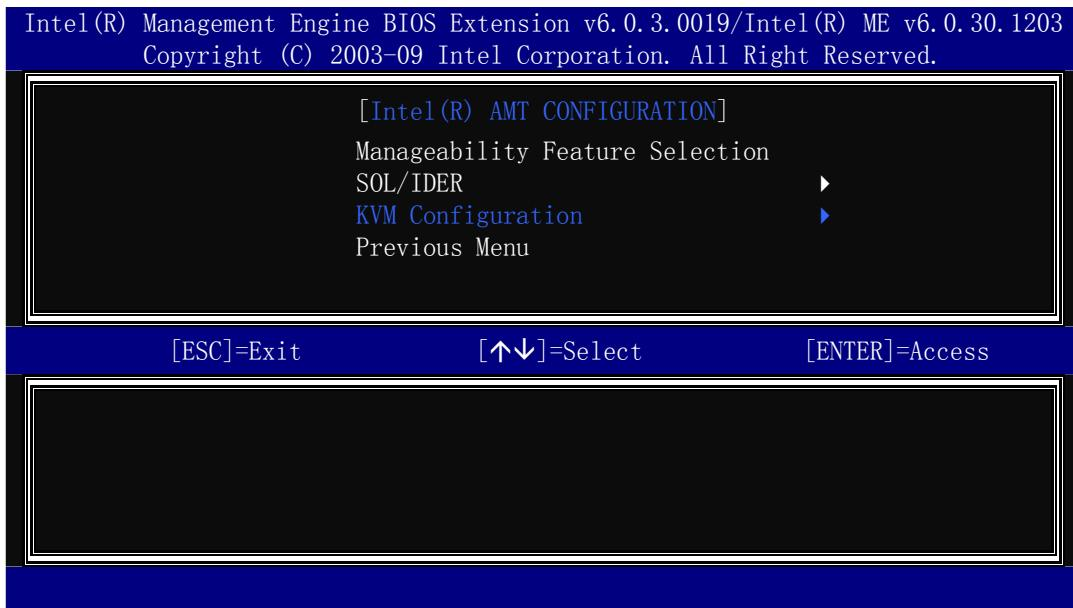

Figure A-5: Select KVM Configuration
Step 6: Select KVM Configuration and press Enter. (Figure A-5)